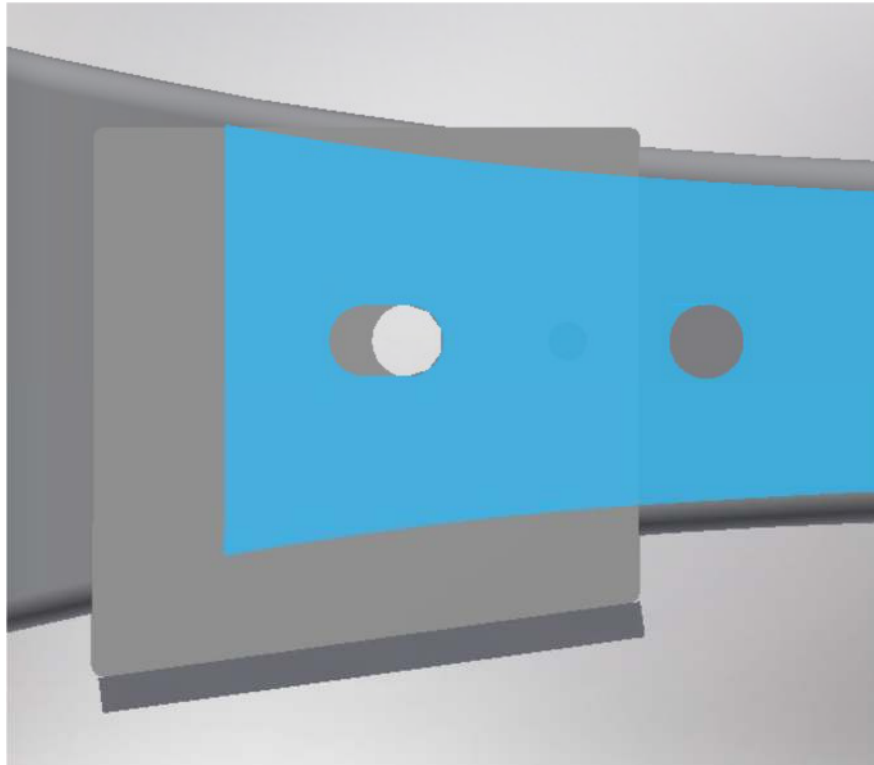

Figure 7
5. On the radius arm, you will see a slotted hole with a hole next to it. Take the R-4911 and place it on the radius arm with the larger hole in the bracket aligned with the slot, positioned closest to the hole side of the slot. See (Fig.7) Place 3/4" bolt that was supplied through the bracket and radius arm to hold the bracket and with the bracket against the bottom of the radius arm, mark the center of the small hole of the bracket on frame. You may also mark the center of the hole on the inside of the frame. Drill a 13/32" hole through the radius arm, or on the inside and outside where marked. With the hole drilled, install bracket using the 3/4" and 3/8" hardware supplied in kit. See (Fig. 3 & 5) for reference. Ensure not to over-tighten bolts and deform the radius arm.